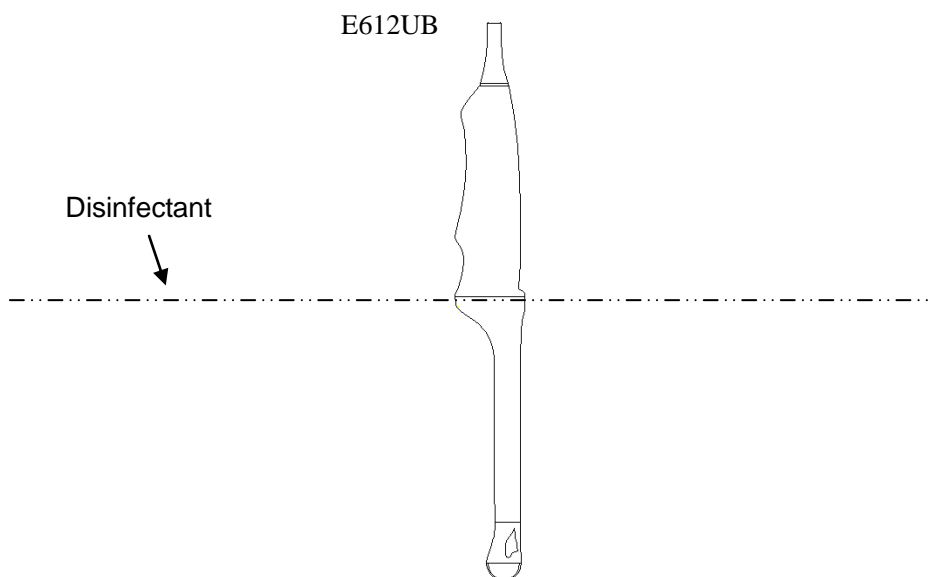

Figure 15-1 Depth of the Transducer Immersed into Disinfectant
5. Place the cleaned and dried transducer in contact with the disinfectant (refers to figure 15-1 for the contacting area) for the time specified by the disinfectant manufacturer. For example, the contact time recommended by the manufacturer for soaking in Cidex Glutaraldehyde(2.4%) is at least 45 min.
7. Patient contact area should be immersed into the solution while using the immersion method, but should not exceed the depth shown in figure 15-1.